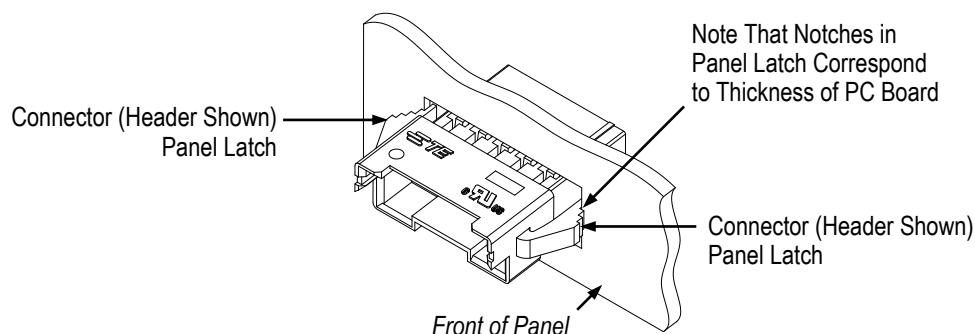

Figure 4
2. From the back of the panel, align the mating face of the connector with the cutout, then push the connector through the panel until the panel latches snap into place and secure the connector to the panel. See Figure 4.
Simultaneously squeeze the panel latches of the connector (shown in Figure 4) until they clear the panel cutout, then push the connector straight through the back of the panel. Refer to Figure 4.